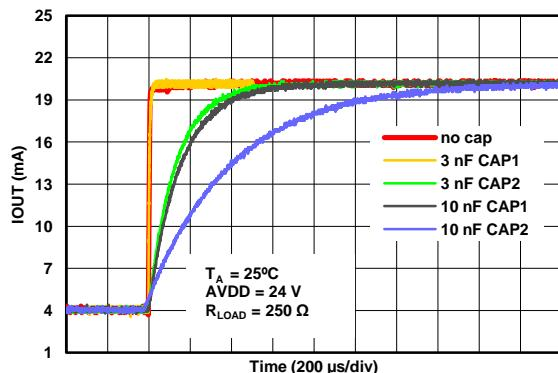
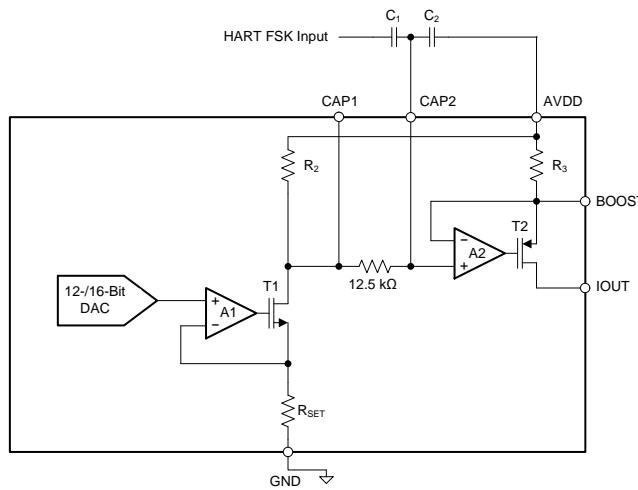

Figure 89. IOUT vs Time for Different Cap Values on CAP1 and CAP2
Figure 94. Implementing HART on IOUT Using the CAP2 Pin
The QFN package provides access to internal nodes of the circuit as shown in Figure 94. Capacitors can be placed on these pins and AVDD to form a filter on the output current, reducing bandwidth and the slew rate of the output. However, to achieve large reductions in slew rate, the programmable slew rate can be used to avoid having to use large capacitors. Even in that case, the capacitors on CAP1 and CAP2 can be used to smooth out the staircases caused by the digital code changes as shown in Figure 89. However, note that power supply ripple will also couple into the part through these capacitors.
The first method of implementing HART is to couple the signal through the CAP2 pin, as conceptualized in Figure 94. Note that this pin is only available in the QFN-40 package.
In Figure 94, R₃ is nominally 40 Ω , and R₂ is dependent on the current output range (set by the RANGE bits) as described below:
1. As is seen in Figure 94, CAP2 is directly connected to the input of the final IOUT amplifier. Any noise or unwanted ac signal routed near the CAP1 and/or CAP2 pins could capacitively couple onto internal nodes and affect IOUT. Therefore, with the QFN package, it is important to avoid routing any digital or HART signal trace over the CAP1 and CAP2 traces.